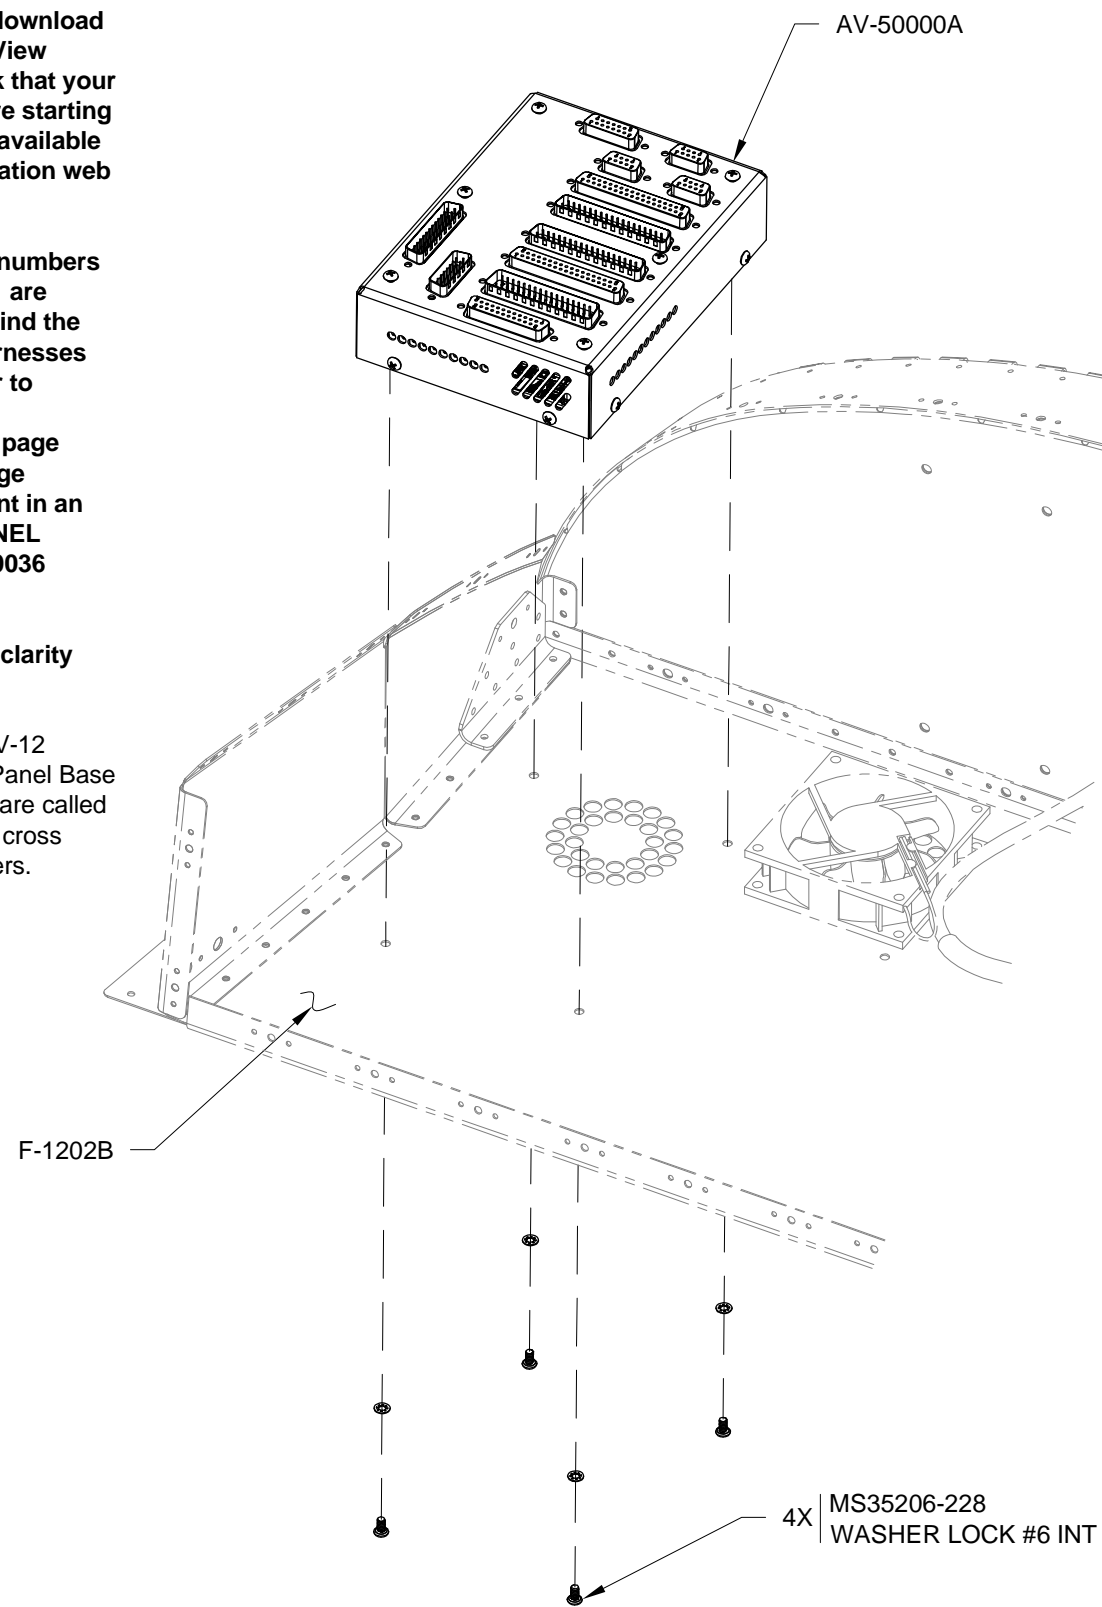

FIGURE 1: INSTALLING THE CONTROL MODULE
Step 1: Install the AV-50000A RV-12 Control Module to the F-1202B Panel Base using blue Loctite and the hardware called out in Figure 1. Be careful not to cross thread or over torque the fasteners.